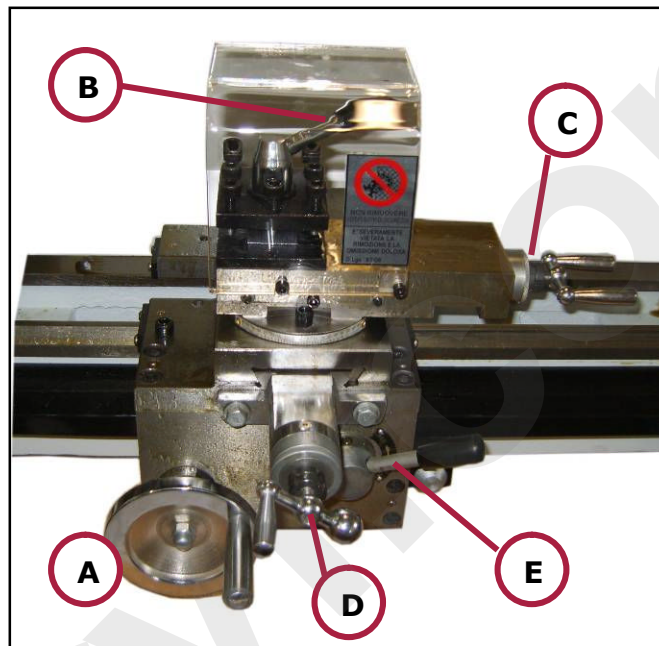

Figure 16 – Levers and handwheels of the carriage and tool holder slide.
On the tool holder carriage there are five manual controls (levers and handwheels) for carrying out fine adjustments and feeding (see the Figure 16).
5. Insert the tool on the turret of the tool holder carriage, and secure it with the relative locking lever (ref. b in Figure 16).
6. Adjust the position of the carriage and tool holder slide, using the relative levers and handwheels (see Figure 16).
11. Perform the machining of the workpiece, by moving the tool towards the workpiece, in rotation, only using the handwheels that regulate the fine movement of the tool holder slides (ref. c / d in Figure 16). Use, where appropriate, the controls for the automatic feeding of the carriage, for threading operations (see section 10.1 below).